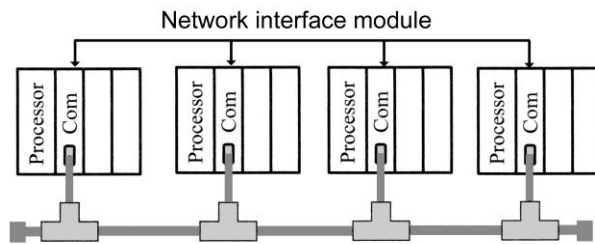

Figure 14-1 Network connection for question 29.
29. The type of network connection topology shown in Figure 14-1 is 29. _____